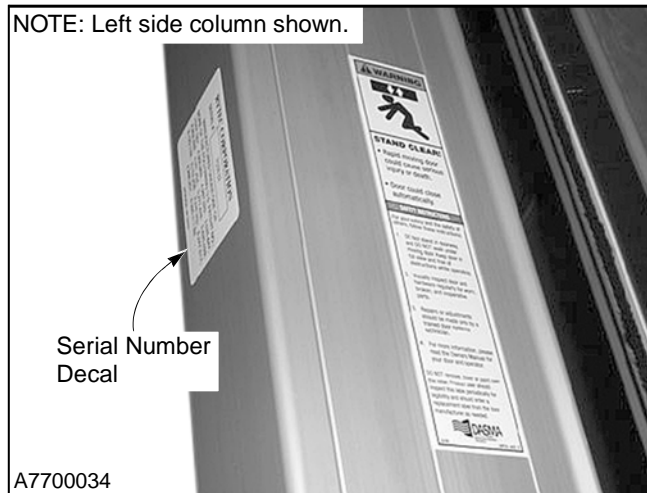
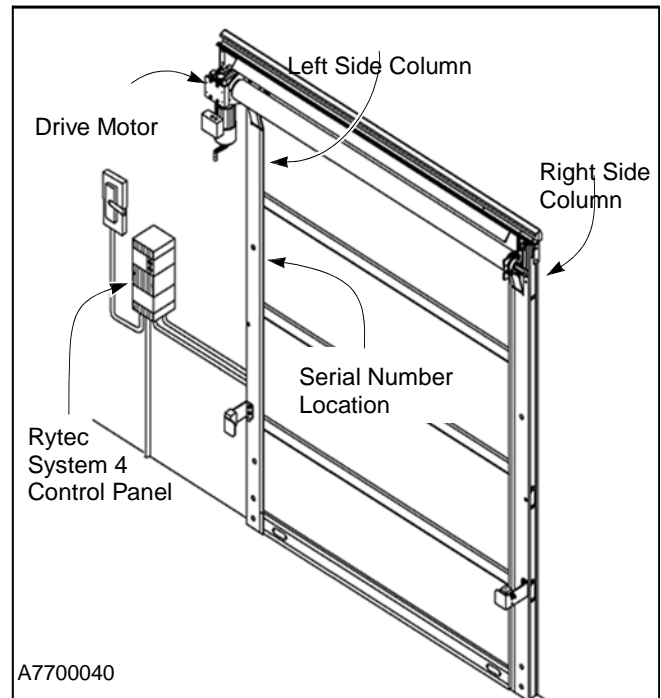

Figure 1
Figure 2
If you have any questions, contact your Rytec representative or call the Rytec Technical Support Department at 800-628-1909. Always refer to the serial number of the door when calling the representative or Technical Support. The serial number plate is located on the small edge of the left side column. (See Figure 1.)
Your **DOOR SERIAL NUMBER** information can be found in three universal locations. These are at the small edge of the left side column (shown in figure 1), on the drive motor, and on the System 4 control panel. (See Figure 2.)
5. The Rytec control box and a fusible disconnect should be installed prior to the start of the door installation. (See Figure 1 for layout.)